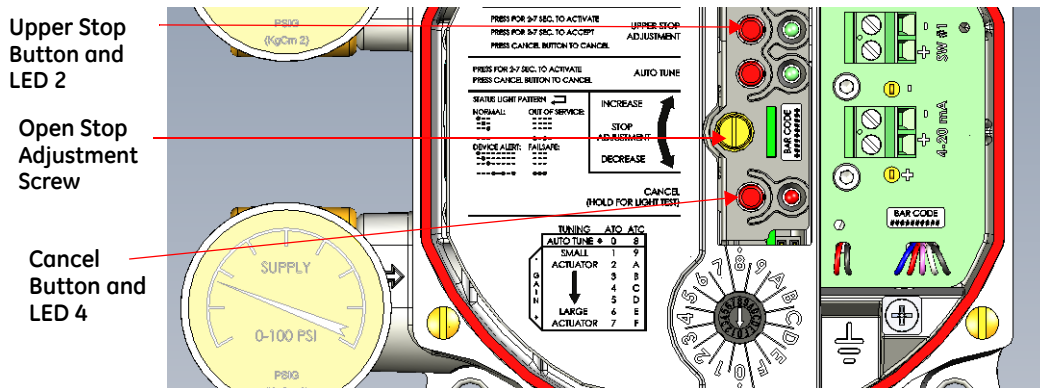

Figure 26 Open Stop Adjustment Screw
2. Move the valve to the desired location via the *Open Stop Adjustment Screw* (Figure 26).